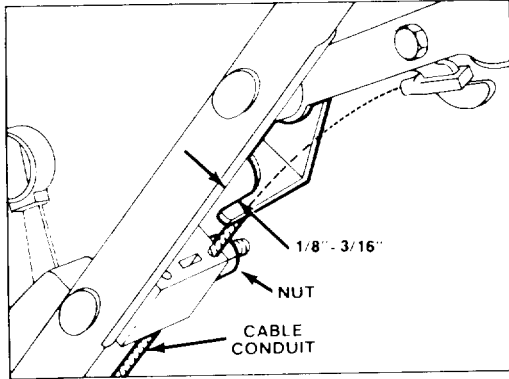

Figure 18
2. CHECK ADJUSTMENT (Fig. 18) — Move control bar toward handle until slack in wire is removed. Gap between brake lever and handle must be 1/8" - 3/16". See step 3 for adjustment.
3. ADJUST CABLE CONDUIT — Loosen nut on cable bracket (Fig. 18). Insert 1/8" - 3/16" object between brake lever and handle. Pull down on cable conduit until slack is removed. Then tighten nut.